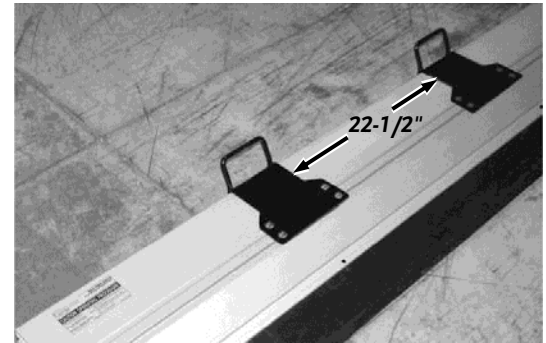

Figure 11
11. When both hinges are properly aligned – they should measure 22 1/2" apart (**Figure 11**).